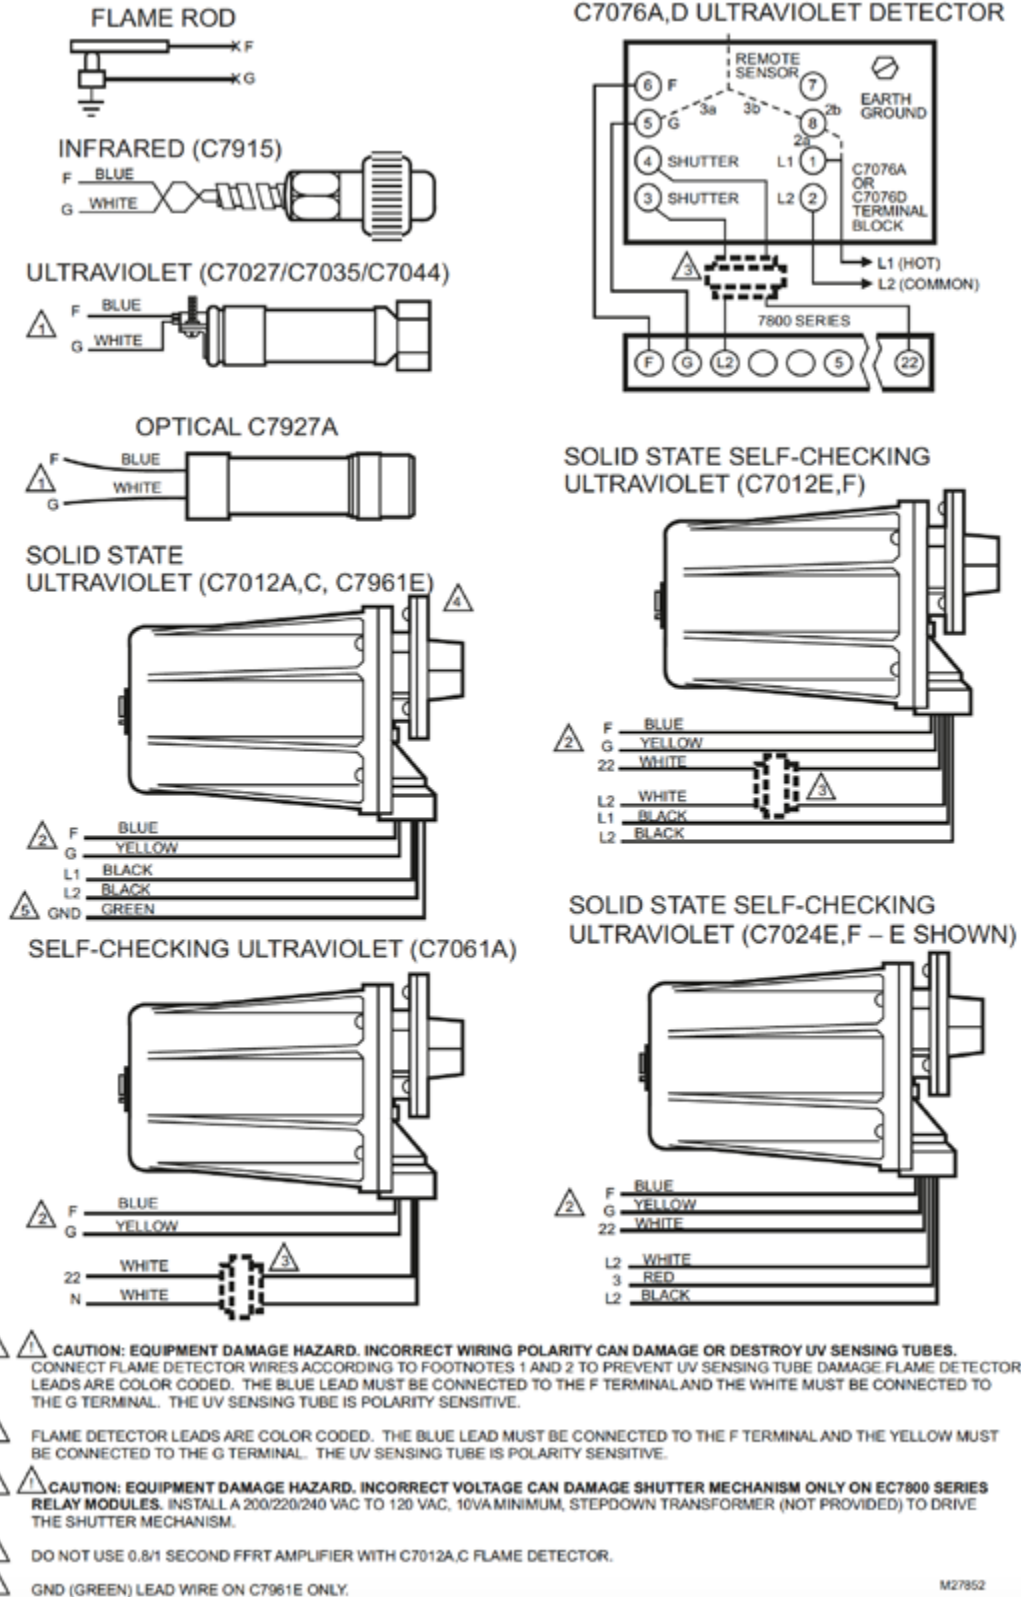

Fig. 3. Flame detector wiring.
^e 200/220/240 Vac applications require a 120 Vac, 10 VA minimum stepdown transformer (not provided) to drive the shutter. Applies to R7886A series 2 or greater; R7861A series 1 or greater. Fig. 3 shows flame detector wiring.
- Refer to Fig. 3 for proper flame detector wiring.
- (1) Enclose scanner wiring without armor cable in metal cable or conduit.
- (2) Follow flame detector Instructions.
11. Check wiring, see Fig. 3.
Flame detector wiring is shown in Fig. 3.